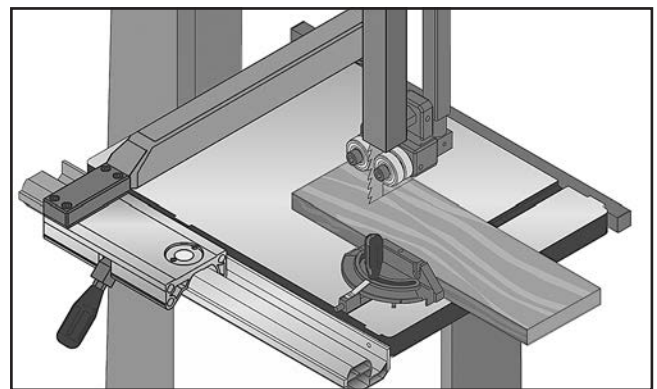

Figure 53. Example of a crosscutting operation with the miter gauge.
5. After all safety precautions have been met, turn bandsaw **ON** and wait for it to come to full speed. Slowly feed workpiece into the blade until blade is all the way through workpiece. **Figure 53** shows an example of a crosscutting operation.